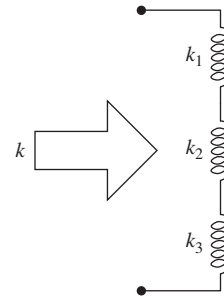

Figure P2.20 Series combination of three springs.
- 2-20.** An assembly of three springs connected in series as shown in Fig. P2.20 has an equivalent stiffness k given by